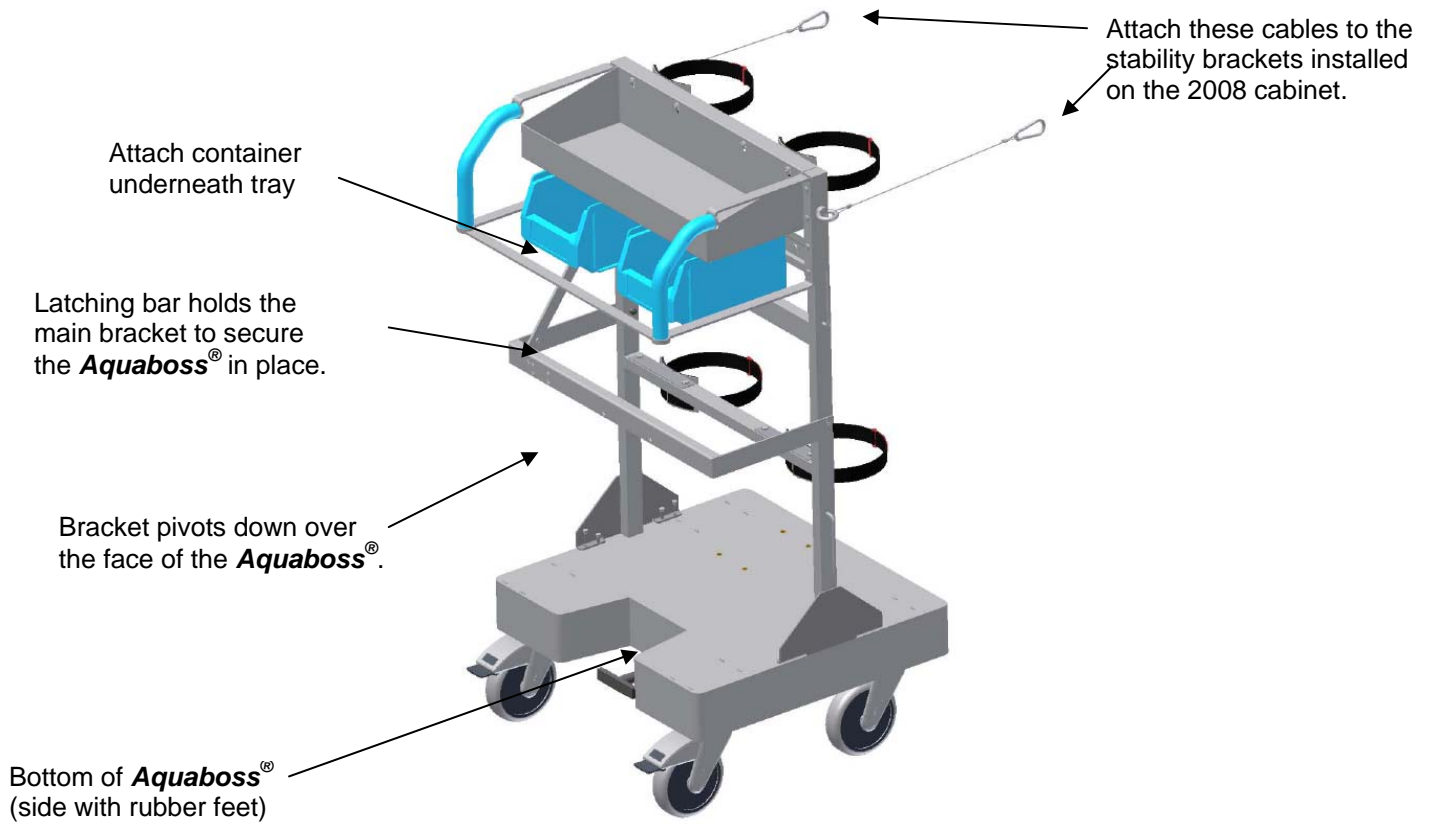

Figure 7 – AquaDock™ RO CART Installed
1. Figure 7 shows the completely installed AquaDock™ RO CART unit.